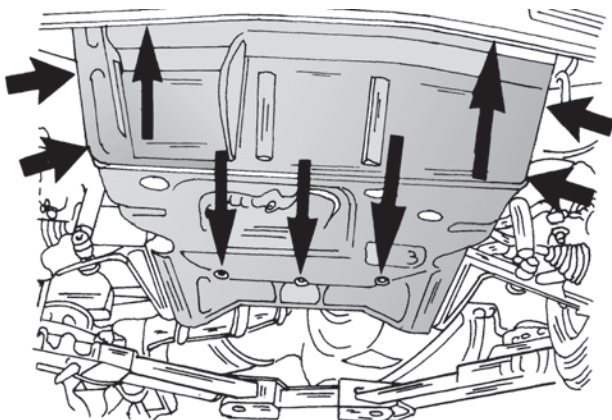

Fig. 1.1. – The arrows show where the noise dampening panel is secured underneath the vehicle.
- From underneath the vehicle unscrew the noise dampening panels. To do this, unscrew the screws and nuts shown in Fig. 1.1, unlock the lower panel assembly and take out of its mountings. Tighten the screws and nuts to 0.9 kgm (7ft.lb.) during installation.
- Disconnect the battery earth cable, remove the noise dampening panel underneath the vehicle and tilt the front end of the vehicle downwards in the familiar manner or remove the radiator grille, depending on the model. Each side of the lock carrier has two securing bolts. Remove the radiator (refer to Fig. 1.1.). In the case of a vehicle with short front end remove the radiator with fan, air guide and lock carrier as a unit.